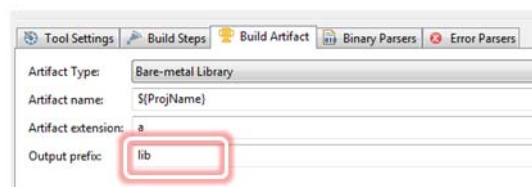

Figure 30: **Build Artifacts Settings**
- Click the **Build Artifacts** tab and make the following settings (also shown in Figure 30):